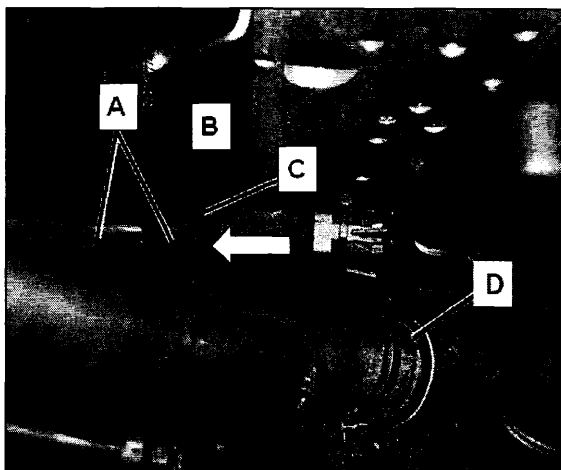

Figure 21
28. Secure ground wiring harness and SBC wiring harness (A, Figure 21) to SBC hydraulic unit bracket (B) with cable tie (arrow). Torque cable tie (arrow) with cable tie pliers (Special Tool) to **150 – 170 Nm** (torque setting 4 on the cable tie pliers) (Special Tool: W 352 589 02 37 00).
- The cable tie buckle (C) must not touch the bracket (B).
- When mounting the wiring harness set (A) to the bracket (B), ensure that the wiring harness set (A) touches the bracket (B) and is mounted there tension free.
- After the SBC wire harness set (A) is secured, it must not be able to move in the longitudinal direction toward the bracket.
29. Attach hose mounting strap (D, Figure 21) to mounting stud, secure with nut.